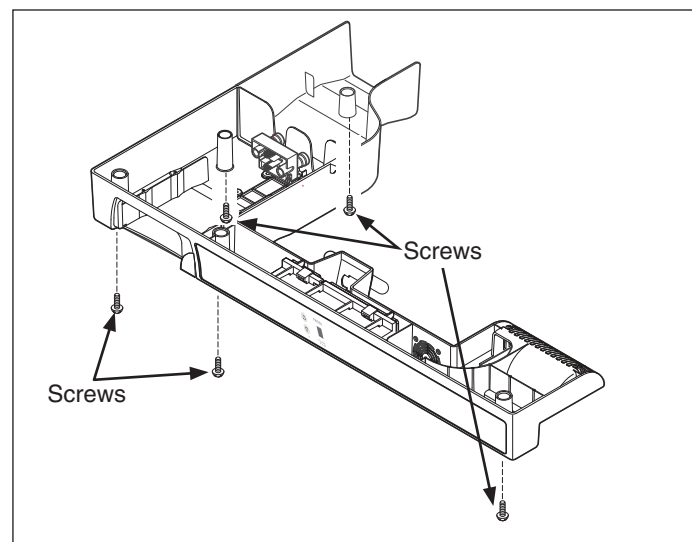

Figure 6-13. Control Box Removal
3. Extract the five screws from the recessed holes in control box securing the control box to the compartment ceiling. (See Figure 6-13)